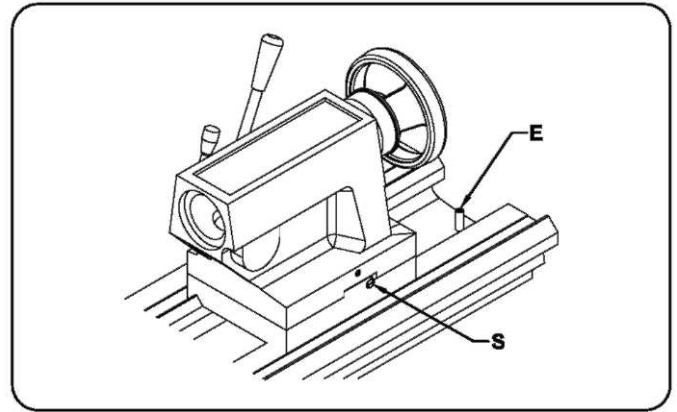
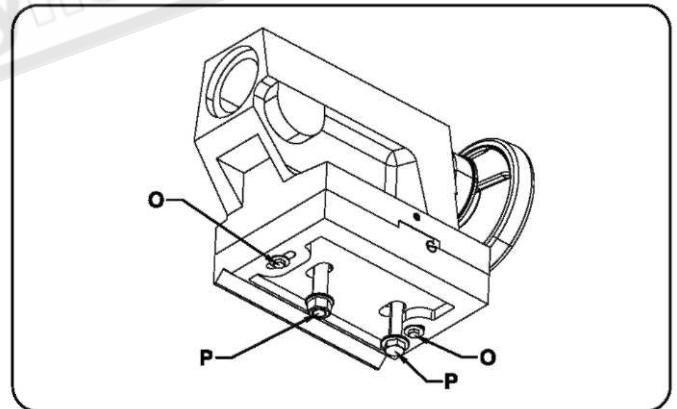
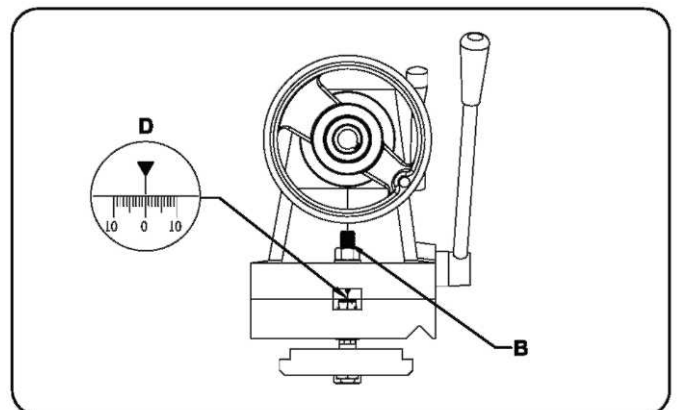

Fig.16
Fig.17
Fig.17-1
Referring to the indicator table as Fig.16 for 0.2/0.25/0.35 /0.4/0.5mm pitch threads cutting, engage the half-nut at 1 and 4 numbered line on the dial as it passes the datum mark. For 0.7/1 /1.4 /1.75 / 2 mm pitches cutting, engage the half-nut at numbered line 2 and 5 only. For 3.5 / 7 /1.4 mm pitches cutting, engage the half-nut at numbered line 3 and 6 only. For 0.8 / 4 mm pitches cutting, engage the half-nut at numbered line 1 only.
Can be freed for movement along the bed by unlocking the clamp lever (A). Additional clamping may be obtained by tightening the large nut (B) located in a recess below the handwheel. (Fig.17-1) Release this clamping nut before attempting to move the tailstock and on completion of the need for extra clamping. The tailstock barrel is locked by lever (C).
The tailstock can be set-over for production of shallow tapers or for re-alignment. To release the clamping lever (A) and clamping nut (B), also the both locking screws (O). (Fig.17) Then, adjust screws (S) (Fig.16,16-1) at each side of the base to move tailstock laterally across the base. An indication of the set-over is given by the datum mark (D) at the tailstock end face, as shown in (Fig.17-1). Apply the clamp lever (A) and locking screws (O) after adjustment of set-over.
Both clamping bolts (P) (Fig. 17) can be adjust the length for the clamping lever (A) and clamping nut (B) to make sure both clamping plates are well clamp with bedways.
Stop pin (E) (Fig.16) is fitted to prevent the tailstock inadvertently sliding off the end of the bed.